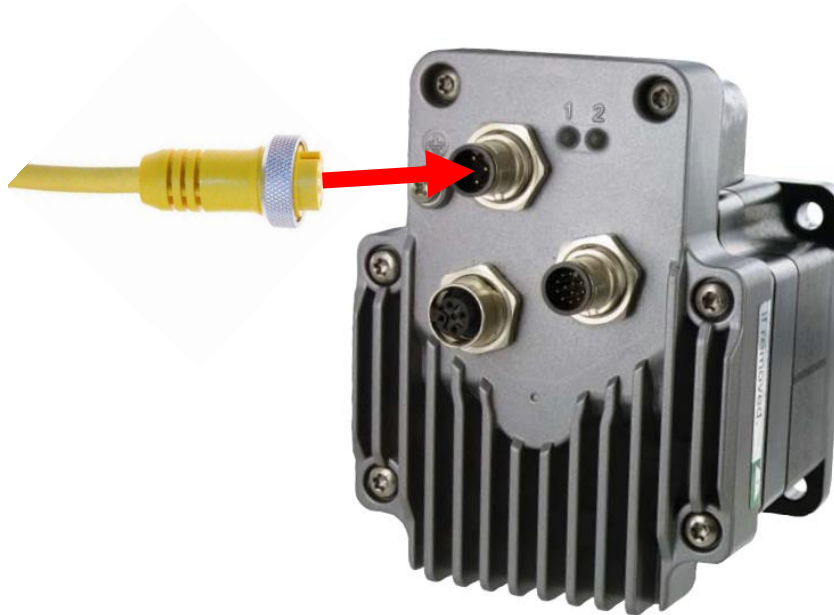

Figure PH018-10 – Power Cable Connection to Motor
1. Plug the power cable (4 pin female) into the appropriate slot in the motor (see Figure PH018-10).